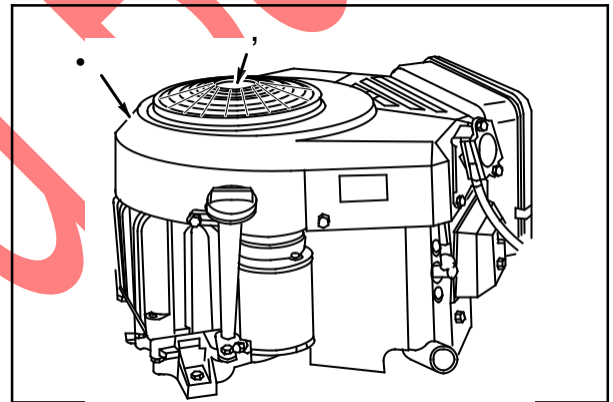

Fig. 7
Remove blower housing (1) and debris screen (2), Fig. 7.